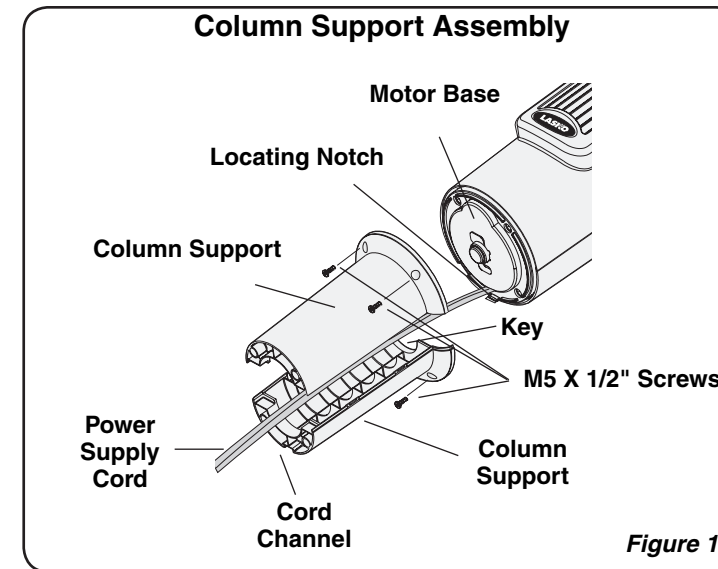

Figure 1
2. Locate the **Power Supply Cord** at the bottom on the Fan. Place the **Power Supply Cord** in the **Cord Channels** of the **Column Supports**. Snap the **Column Supports** firmly together to form a **Column Support Assembly**. (**Figure 1**)
3. Attach the **Column Support Assembly** to the **Motor Base** with (4) 1/2" Long **M5 Screws**. Make certain to align the **Key** on the **Support Column Assembly** with the **Locating Notch** on the **Motor Base**. (**Figure 1**)